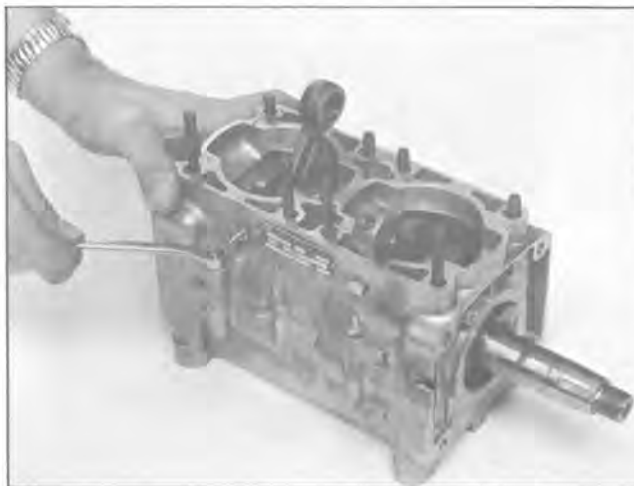

Fig. 11 — Removing/Installing Crankcase Bolts
8. Remove four crankcase bolts and separate crankcase. See Figs. 11 and 12. Lift crankshaft from lower half of crankcase.
14. Reassemble crankcase using sealing compound. Gasket is not required. Tighten four crankcase bolts using a diagonal pattern. Position four long and four short cylinder mounting bolts in crankcase assembly. See Fig. 11.